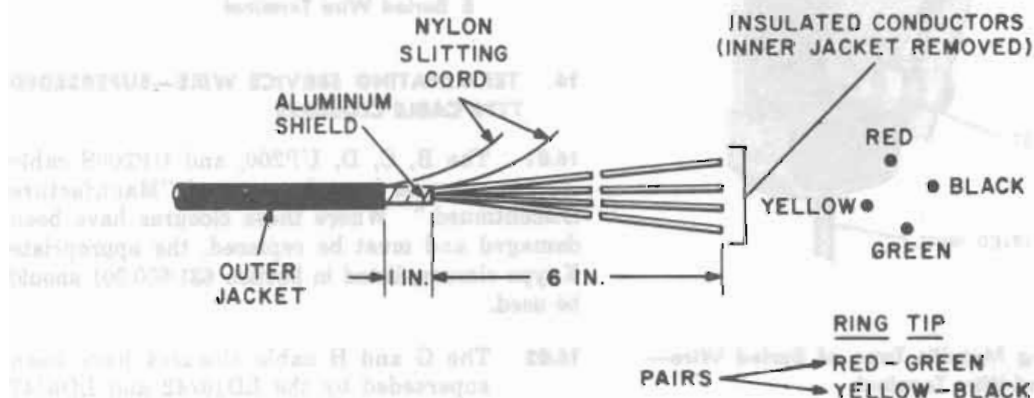
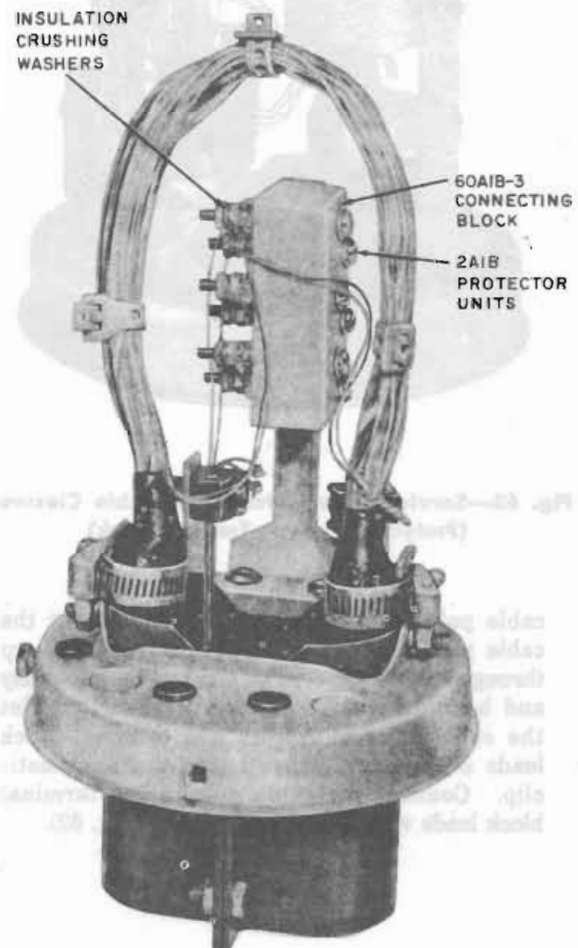

Fig. 59—Prepared Service Wire—B Cable Closure
Fig. 61—Service Wire Installed—B Cable Closure (Protected)
- (1) Remove all unnecessary slack from the service wire. Mark the outer jacket 1/4-inch below the AT-7796X connector. Prepare the service wire as illustrated in Fig. 59.
- (1) Remove all unnecessary slack from the service wire. Mark the outer jacket 1/4-inch below the AT-7796X connector. Prepare the service wire as illustrated in Fig. 59. Install the metallic tape in the AT-7796X connector as illustrated in Fig. 10. Tighten the screw.
- (2) At each cable butt, place binder group identification ties (see 7.01) around the binder group containing the cable pair to be connected. Remove the unit binder. Remove the assigned cable pair from the binder group. At the approximate center form a hairpin loop with each cable pair conductor.
- (3) Place the hairpin loop around the binding post between the pronged washer and the plain washer (Fig. 61). Avoid pulling the conductors against the threads of the binding post. This will prevent cutting the conductors when tightening the locknuts.
- (4) Place the bare wire ends of the service wire conductors around the binding post between the outside plain washers. Tighten the locknuts (Fig. 61).
- (1) Remove all unnecessary slack from the service wire. Mark the outer jacket 1/4 inch from the AT-7796X connector. Prepare the service wire as illustrated in Fig. 59. Install the metallic